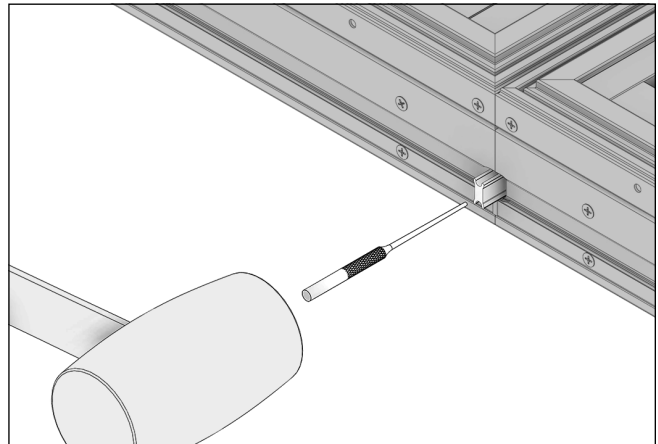

Figure 35 Insert mull pin
- Use a punch or similar tool to push the mull pin fully down. Ensure the pin sits flush with the bottom of the T-slot. See Figure 35.